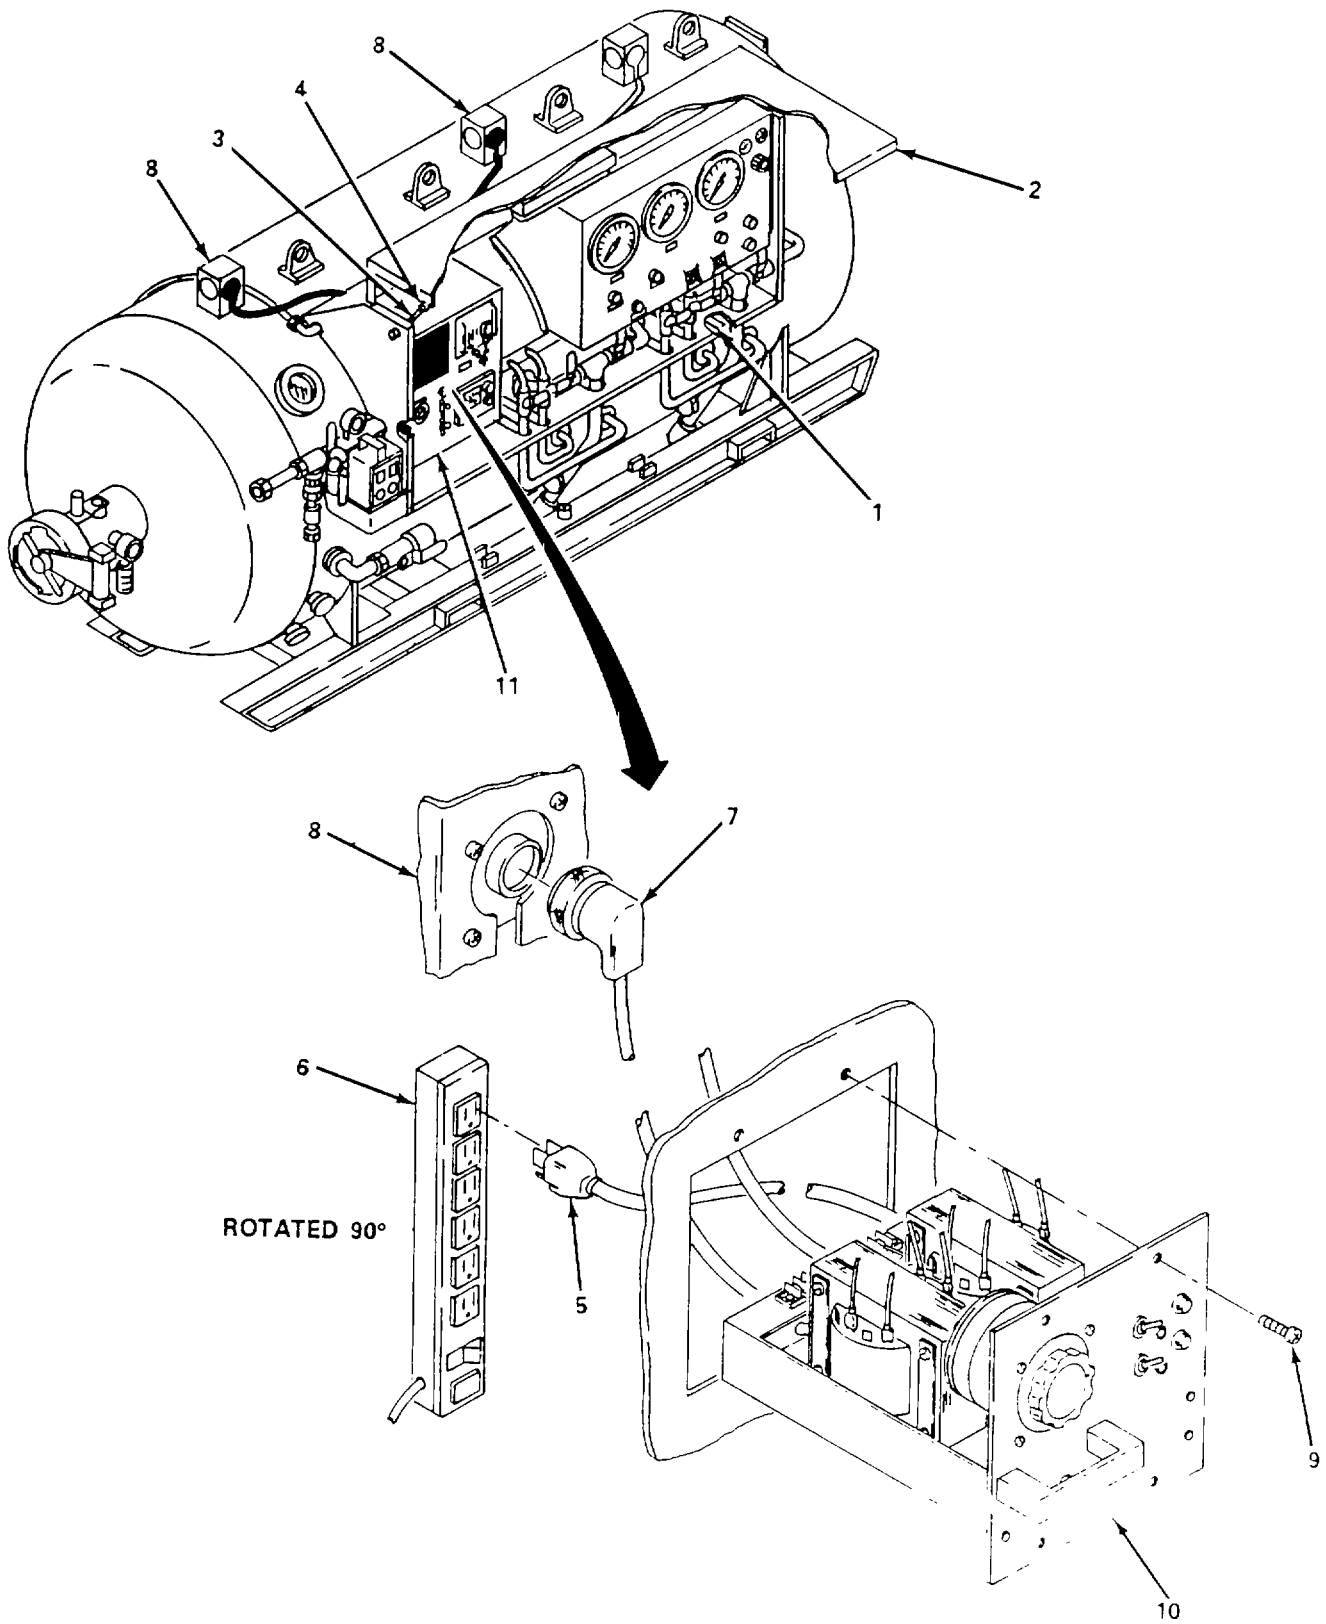

Figure 4-21. Double Light Power Supply (Inner Lock), Replace.
a. Replace. (figure 4-21)
- (1) Unlatch two latches (1), open hood assembly door (2) and install two supports (3) and pins (4).
- (2) Remove electrical plug (5) from six plug receptacle power strip (6).
- (3) Remove two electrical connectors (7) from two light sources (8).
- (4) Remove four screws (9) and remove double light power supply (10) from control panel (11).
- (5) Install double light power supply (10) into control panel (11) and secure with four screws (9).
- (6) Install two electrical connectors (7) on two light sources (8).
- (7) Install electrical plug (5) into six plug receptacle power module (6).
- (8) Remove two pins (4), supports (3), close hood assembly door (2) and secure with two latches (1).